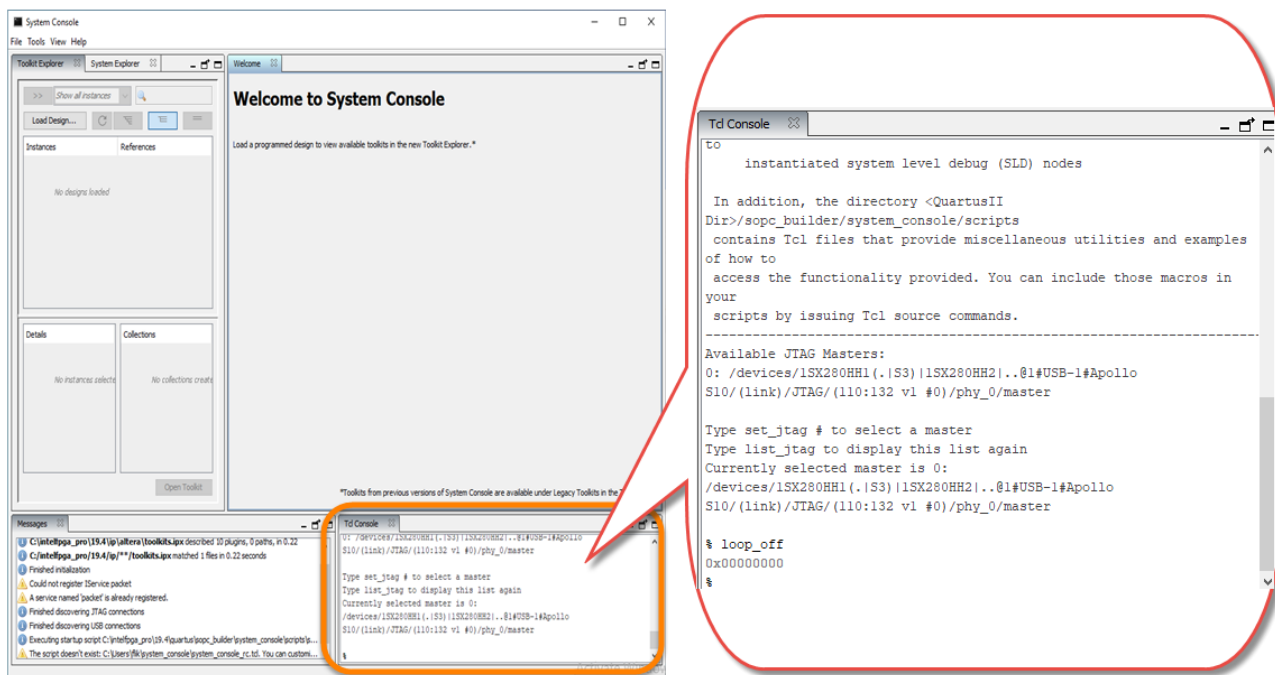

Figure 7-6 Enter command for test
6. If you have a QSFP28 loopback fixture installed, type **“loop_off”** to turns off internal serial loopback. Otherwise, type **“loop_on”** to turn on internal serial loopback(See **Figure 7-6**).